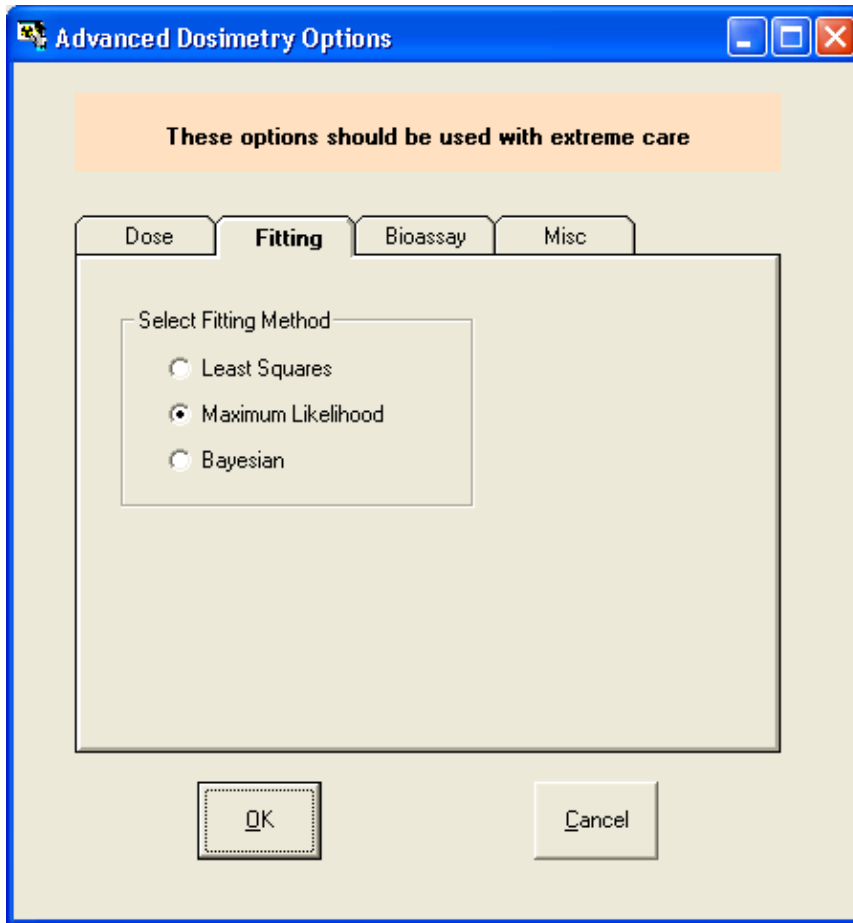

Figure 4.5. **Selecting** Fitting **options in the** Advanced Dosimetry Options window.
- Fitting - **select from "Least Squares", "Maximum Likelihood" (the default), or "Bayesian" fitting methods (Figure 4.5).**